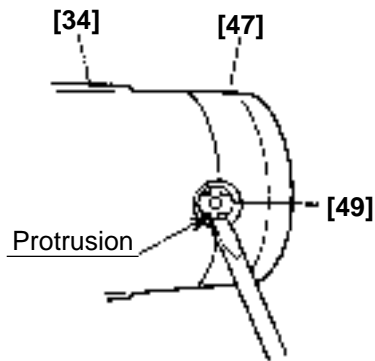

Fig. 2
The Carbon Brush [49] can be easily taken out by hooking the protrusion of the Carbon Brush [49] with the tip of a flat-blade screwdriver as shown in Fig. 2. Remove the Retaining Ring (E-type) for D9 Shaft [70]. Slide the Clamp Lever [71] to avoid contacting the protrusion (A) of the Clamp Lever [71] with the protrusion (B) of the Handle Cover [28] then turn it. Remove the Clamp Nut [72], two Washers (S) and Bolt (Square) M6 [20]. Then, loosen the three Machine Screws (W/Washers) M5 x 45 (Black) [27], and separate the Gear Cover Ass'y [3] from the Housing [34]. The Armature Ass'y DC 24V [44] will remain within the Housing [34]. With a wooden or plastic hammer, tap gently on the outside of the Housing [34] to loosen and remove the Armature Ass'y DC 24V [44]. At this time, be very careful not to hit the fan on the Armature Ass'y DC 24V [44].